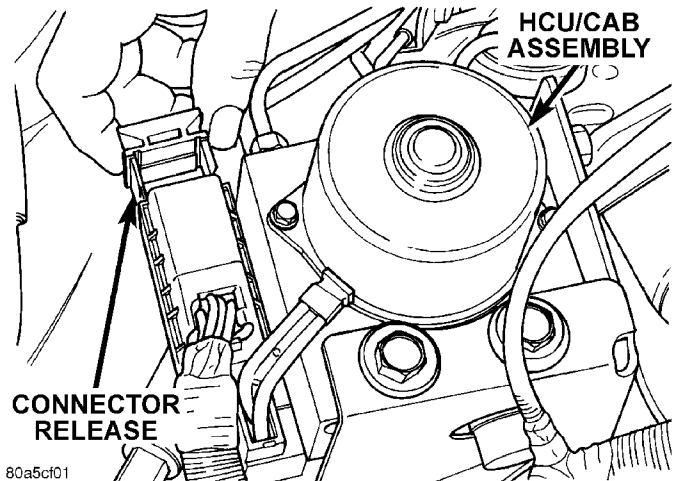

Fig. 5 CAB Connector Release
- (1) Remove negative battery cable from the battery.
- (2) Remove air cleaner housing.
- (3) Remove windshield reservoir mounting bolts and move the reservoir to the side.
- (4) Remove steering gear shield.
- (5) Pull CAB harness connector release out and remove connector (Fig. 5).
- (6) Remove the brake lines from the HCU.